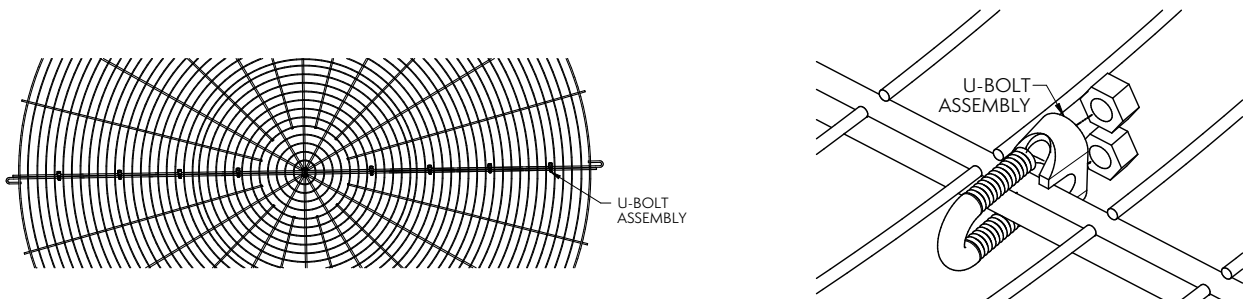

Figure 23 – U-Bolt Assembly Spacing & Arrangement
3. Join the two screen halves with "U" bolts, as shown in Figure 23.